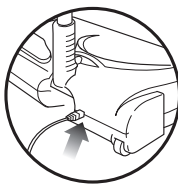

Fig. 5
- 5 When you're finished cleaning, pull the dust container straight out from the side. (Fig. 5)
- 2 Insert the charger plug into the hole on the back of the unit. Plug the charger into a wall outlet. The light next to the power button will illuminate when the unit is charging. If the unit is plugged in and the light is not illuminated, press the power button once. The light should now be illuminated indicating that the unit is charging. (Fig. 5) Once the charge is completed, the light will go off.